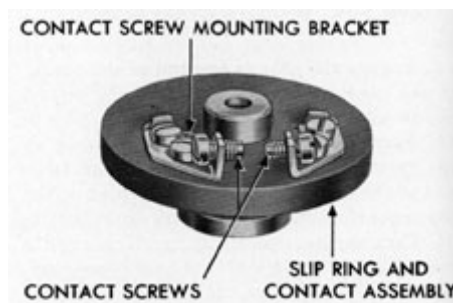

Figure 5-57. Slip ring and contact assembly removed.
up contact assembly as described in Section 5M11, in order to get proper clearance for the removal of the slip ring and contact assembly. Remove the pin screw and loosen the setscrew that secures the slip ring and contact assembly to the differential shaft. The slip ring and contact assembly is removed as a unit (see Figure 5-57).
**5M14. Repairing and adjusting the slip ring and contact assembly.** (See Figure 5-57.)